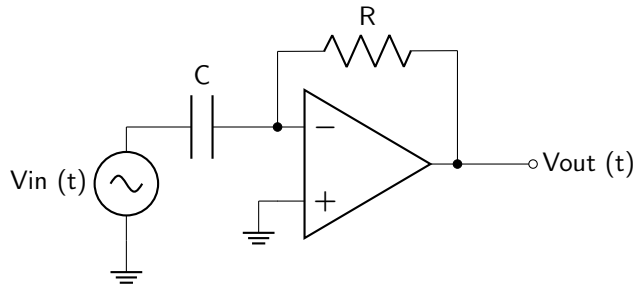

Figure 7.1: Lab 7 pre-lab op-amp circuit 1.
1. Given the circuit shown in figure 7.1, derive an equation for $v_{OUT}(t)$ in terms of R , C , and $v_{IN}(t)$.